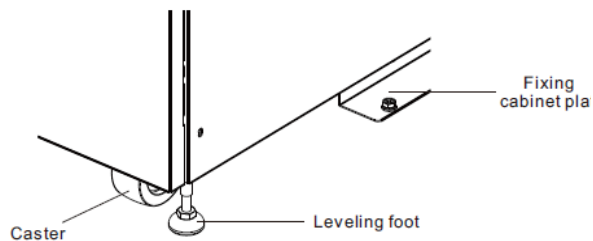

Figure 2-5
- To fix the cabinet in position, simply rotate leveling feet clockwise and fix cabinet plates. Refer to Figure 2-5.